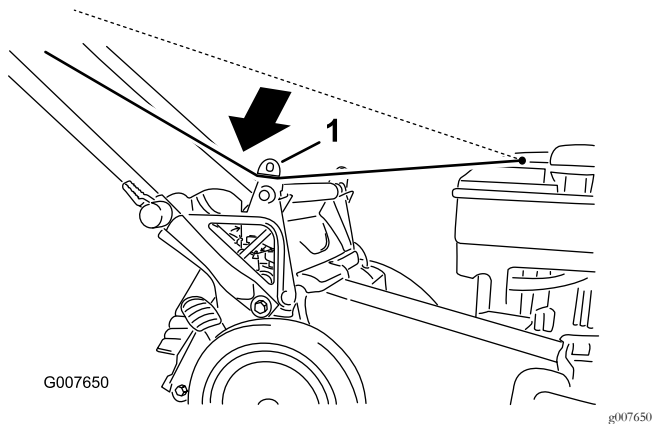

Figure 23
1. Route the starter rope around the lower-rope guide (Figure 23).
4. Install the rear plug (Figure 23).